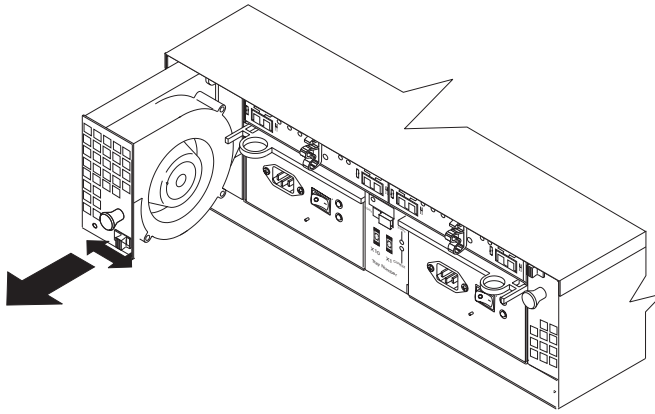

Figure 13. Replacing a fan CRU
2. Ensure that you move the fan latch in the same direction as the arrow before you slide the fan all the way into the bay. If the fan does not go into the bay, rotate it 180°. (See Figure 13.)